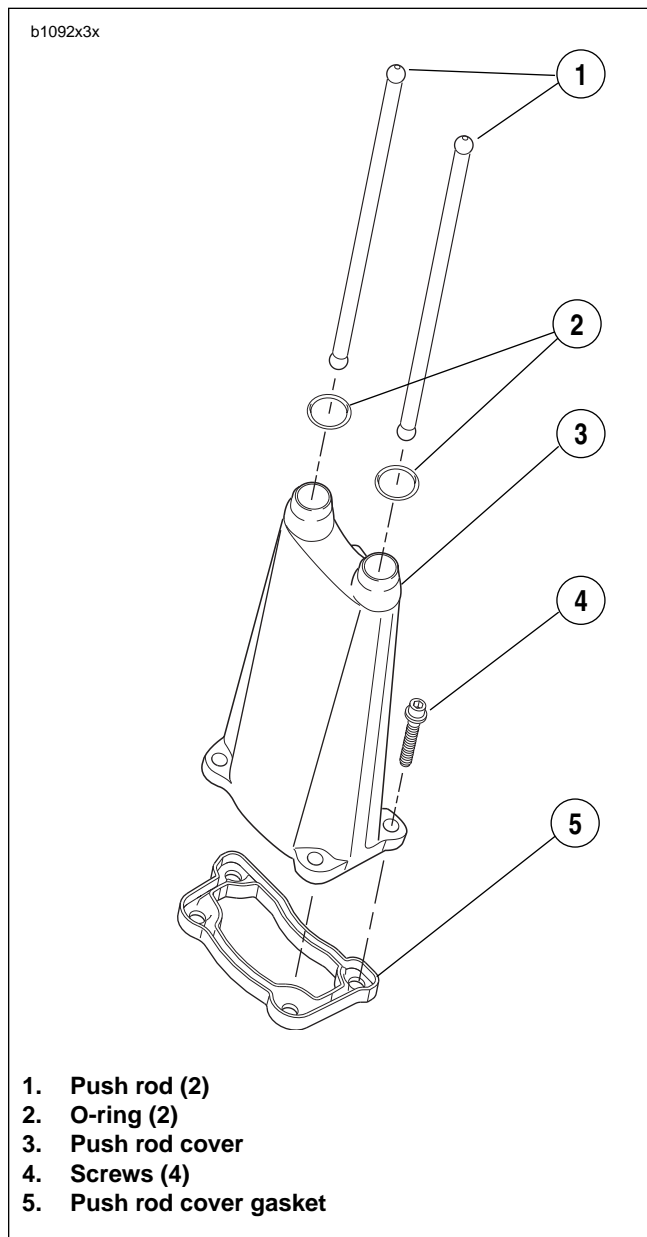

Figure 3-81. Push Rods and Push Rod Cover Assembly
1. See Figure 3-81. Install push rod covers.
- a. Install **new** o-rings (2) on top of each push rod cover (3).
- b. Install **new** push rod cover gasket (5) onto bottom of each push rod cover.
- c. Install each push rod cover assembly and start the fasteners (4) securing the bottom of each cover to the crankcase.